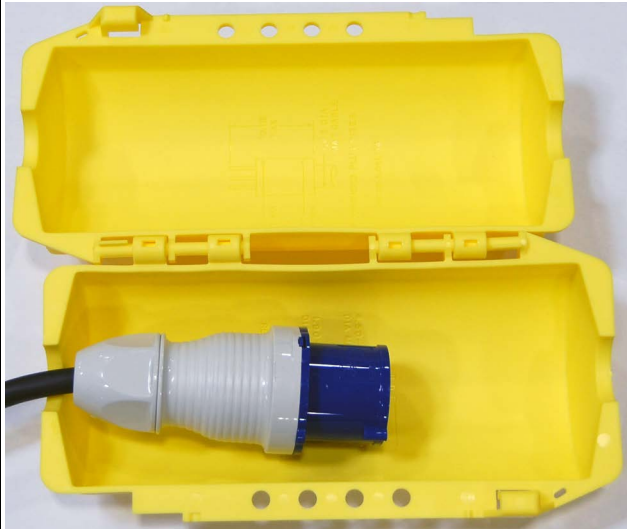

Figure 2-16: OPEX Lockout Devices
3. Install the OPEX lockout device over the AC plug as follows (refer to Figure 2-16 on page 39):